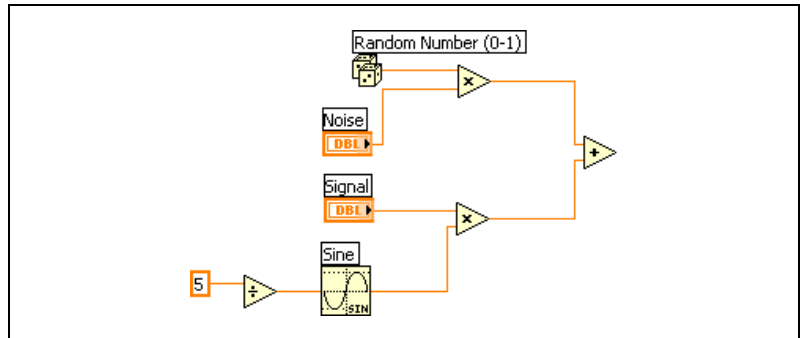

Figure 10. Creating the Sine Wave
8. Wire the **x/y** output of the Divide function to the **x** input of the Sine function as shown in Figure 10.